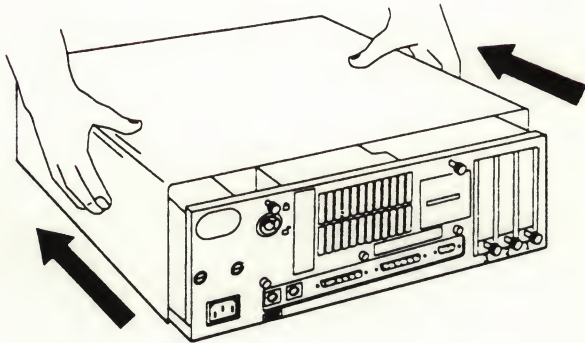

Figure 3-17 Removing the Cover of the Model 50
6. Grasp the cover in both hands and slide it forward and off as shown in Figure 3-17.